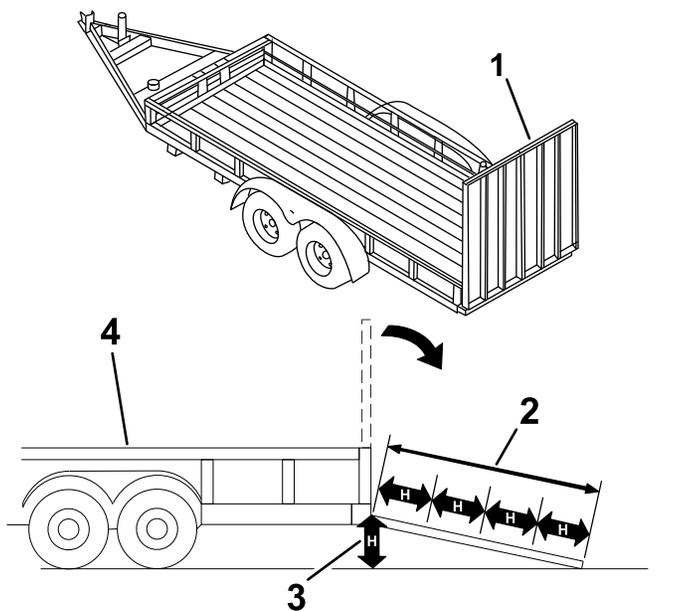

Figure 27
Loading a machine onto a trailer or truck increases the possibility of tip-over and could cause serious injury or death (Figure 27).
3. Lower the ramp (Figure 27).